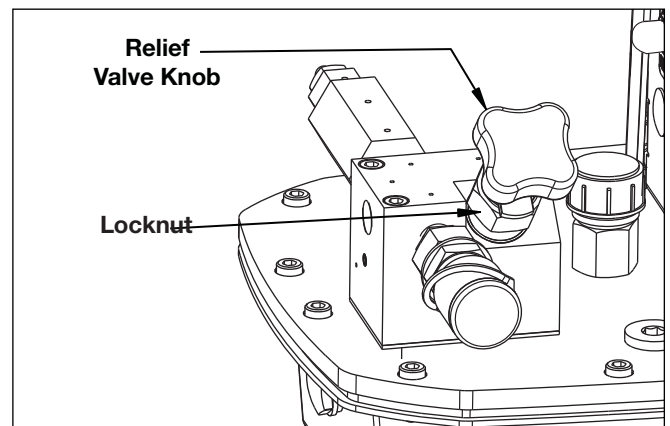

Figure 7, Relief Valve
5.3 Adjusting the Relief Valve Setting (See Figure 7)
3. Loosen the relief valve locknut to allow pressure adjustment. See Figure 7.
9. After verifying that setting is correct, tighten the relief valve locknut (hand tight only - do not overtighten) to lock the setting. See Figure 7.